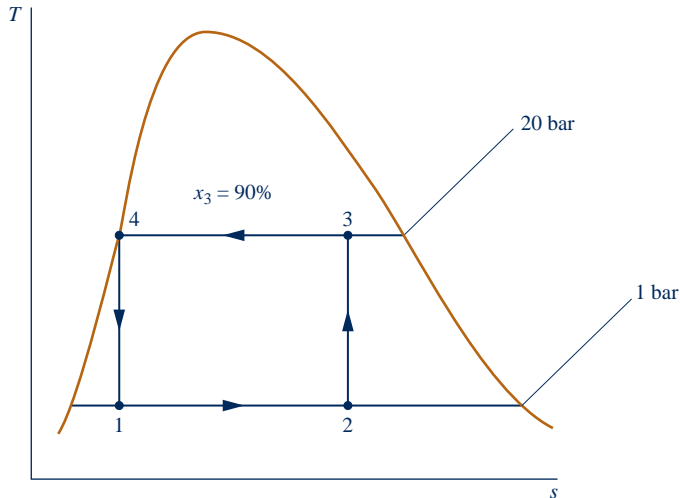

Fig. P6.31
6.31 Figure P6.31 provides the T - s diagram of a Carnot heat pump cycle for which the substance is ammonia. Determine the net work input required, in kJ, for 50 cycles of operation and 0.1 kg of substance.